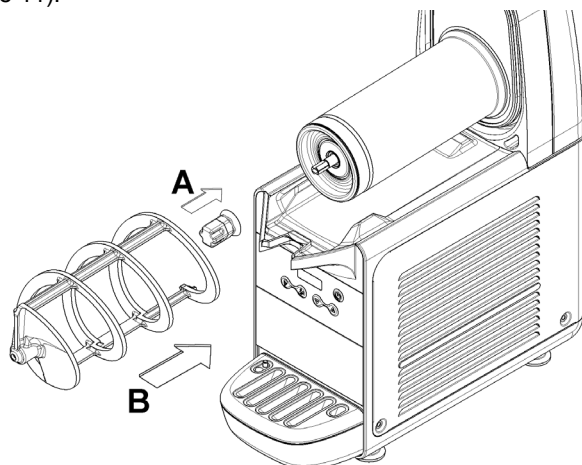

figure 11
**5** Reassemble the hexagonal joint and then the mixer (see figure 11).